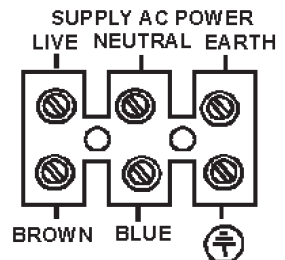

Fig 1
2. Connect the earth wire to the connector opposite the green/yellow cable. (See Fig. 1).